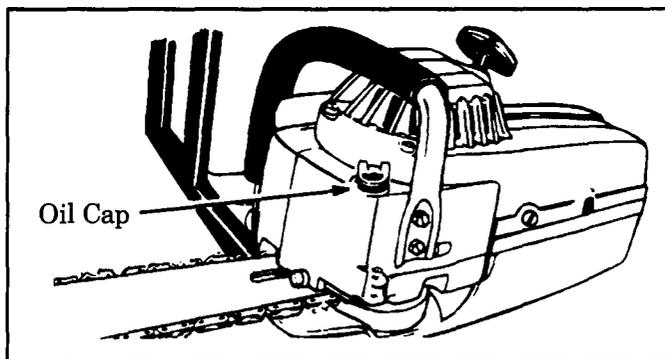

Figure 12
- b. Turn the saw on its side with the oil cap up. Figure 12 .